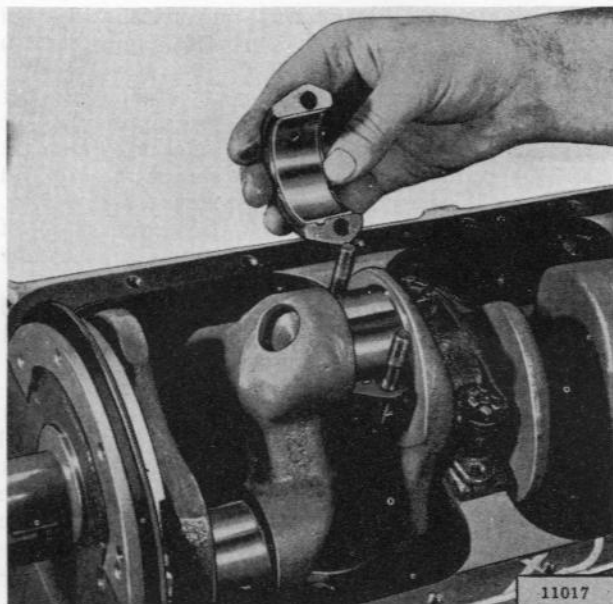

FIG. 128—INSTALLING CONNECTING ROD BEARING CAP
Install the upper crankpin bearing (30, Fig. 81) in the connecting rod (38) and the lower crankpin bearing (30) in the connecting rod bearing cap (31). Lubricate the connecting rod bearing surfaces generously with clean light engine oil and install the bearing cap (Fig. 128). Use new selflocking nuts and tighten to 40-45 lb. ft. torque [5,5 kg. m a 6,2 kg. m]. Refer to Par. 34 and 35 for detailed informa-